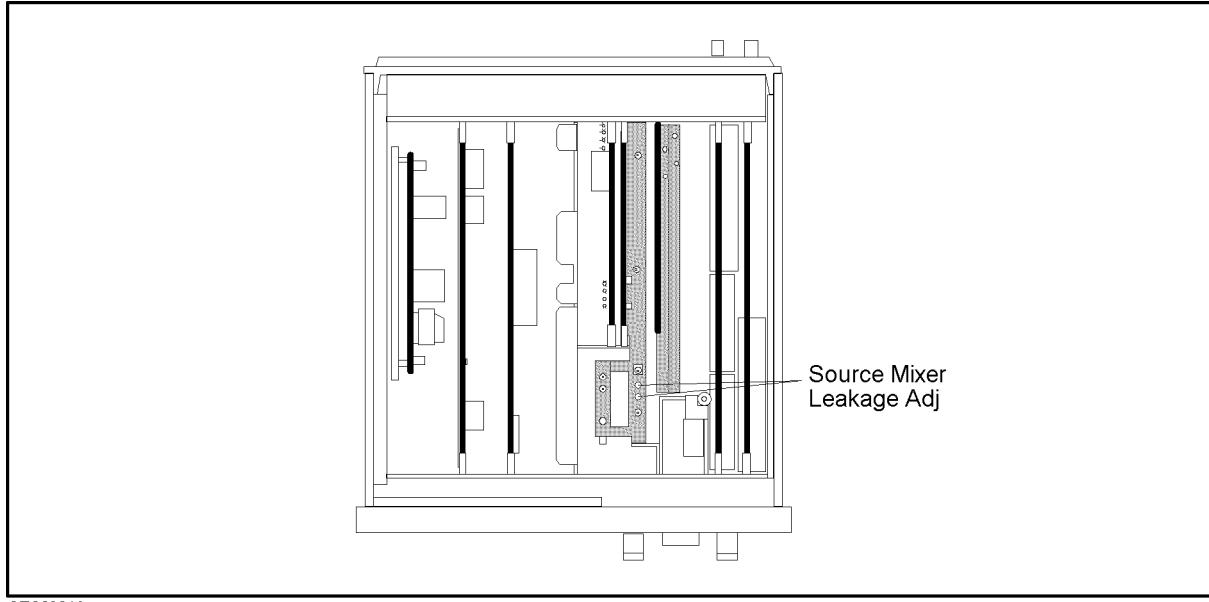

Figure 3-14. Source Mixer Leakage Adjustment Location
4. Adjust the local leakage adjustments until the spectrum analyzer reading of the 78.58 MHz signal level is smaller than -40 dBm. Then press **CONT** to complete the adjustment. The adjustment locations are shown in Figure 3-14.